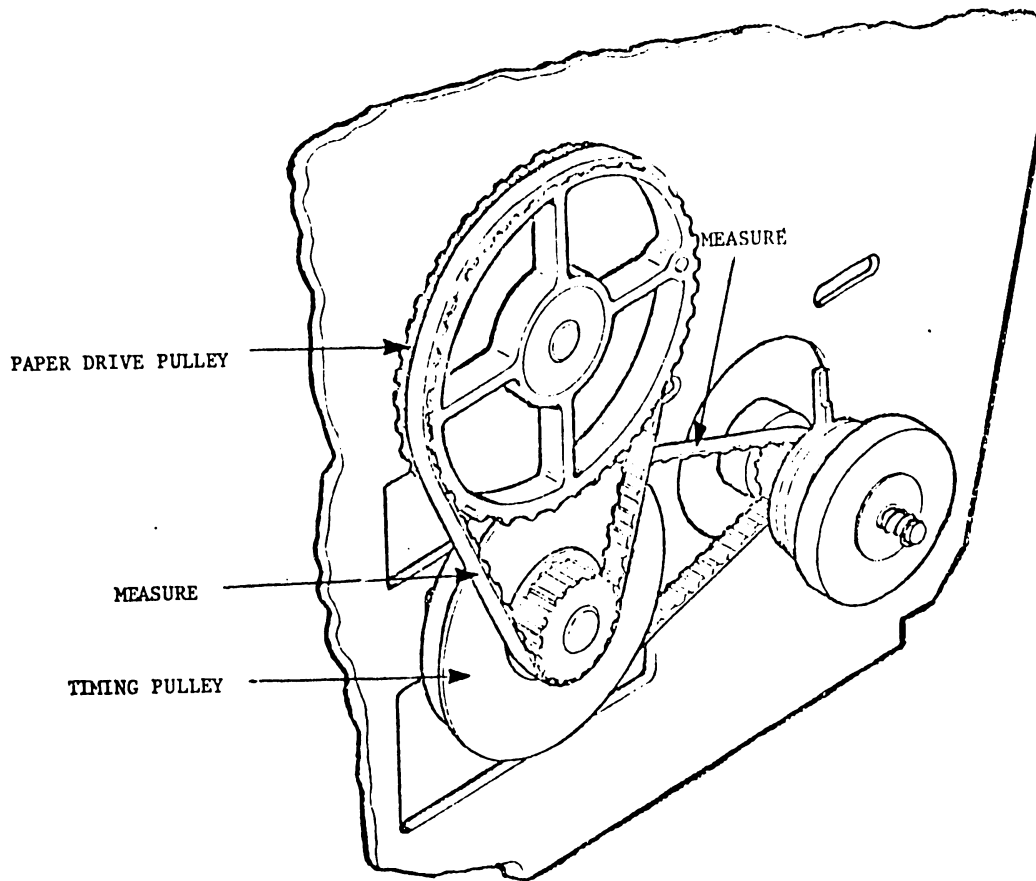

FIGURE 5-5 PAPER DRIVE ASSEMBLY
5.3.4 PAPER DRIVE ASSEMBLY (FIGURE 5-5)